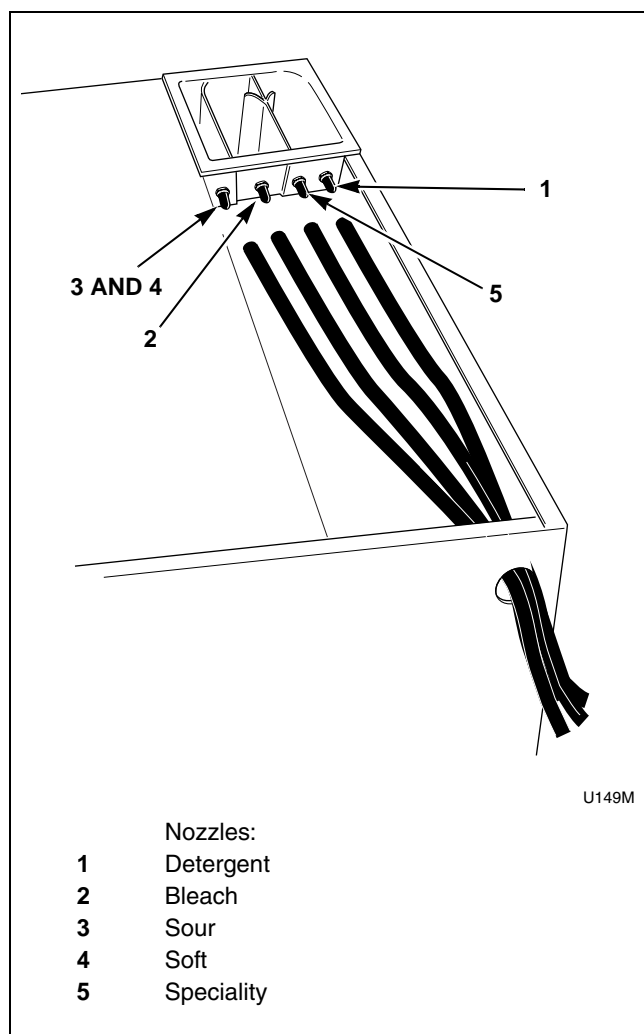

Figure 46
3. Locate the 4 capped nozzles on the rear of the liquid supply dispenser and remove caps. Refer to Figure 46.